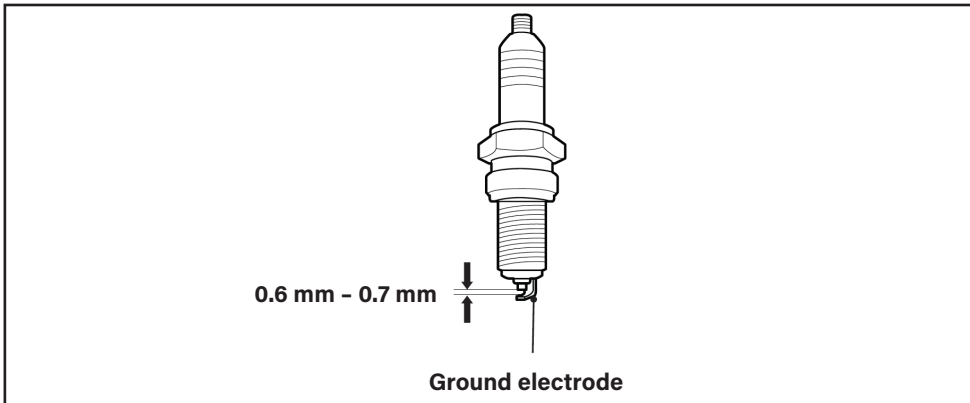

Fig. 25
6. Check the spark plug gap. It should be 0.6-0.7 mm (Fig. 25).